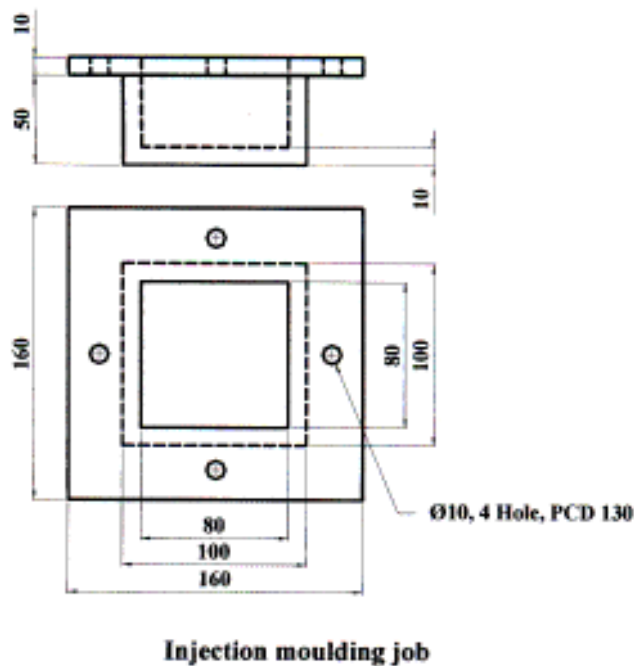

Fig. 7
11. a) Design an injection mold for the PVC component shown in figure 7. 18